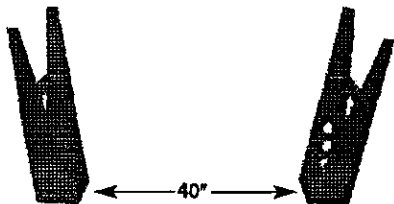

**Figure 4 - Attach Leg 'B' to Assembly**
- Position leg 'B' outside the top and short brace. Attach as indicated in Figure 4 using four bolts, washers and nuts.